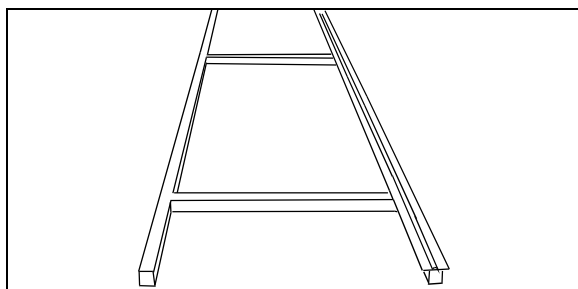

FIGURE 25: SUPPORT RAIL INSTALLATION 06501
2. Set the support rail (Prévost #29261) down (Fig. 25). Using shims, adjust its level to stabilize it.
1. Set the support rail (Prévost #29261) down (Fig. 25). Using shims, adjust its level to stabilize it. Use previous reference marks to ensure proper positioning.